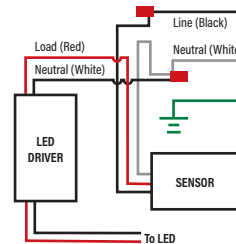
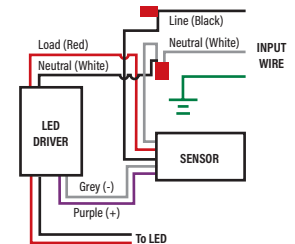

Fig. 8
Fig. 9
Step 3: Make wiring connections as shown in Fig. 8 or Fig. 9.